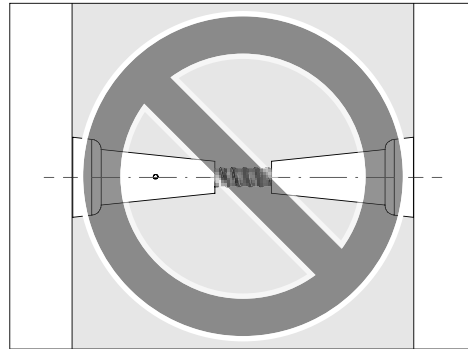

Fig. B1.01
- Each CB Bracket must be individually anchored, and the anchoring may only be loosened or dismantled on the side of the load transfer. The positioning of two cones against each other is not allowed. (Fig. B1.01)